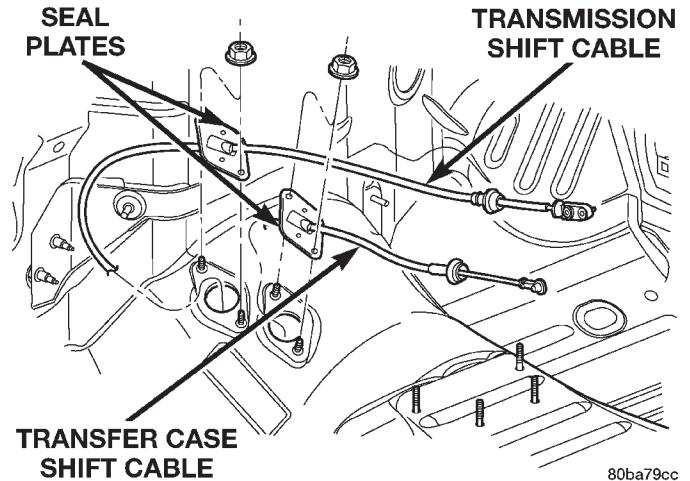

Fig. 8 Shift Cables at Floor Pan
(8) Remove the nuts holding the shift cable seal plate to the floor pan (Fig. 8).
(9) Pull cable through floor panel opening.
(1) Route cable through hole in floor pan.
(2) Install seal plate to studs in floor pan.
(3) Install nuts to hold seal plate to floor pan (Fig. 8). Tighten nuts to 7 N·m (65 in. lbs.).